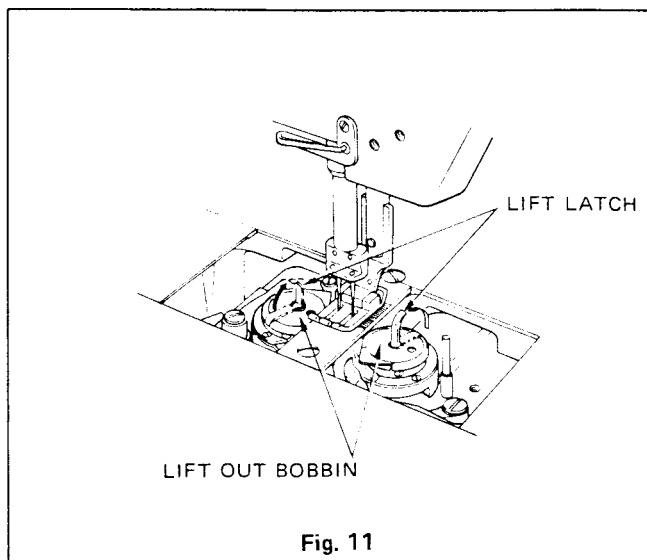

Fig. 11
3. Raise bobbin latches and lift out bobbins as indicated in Fig. 11.